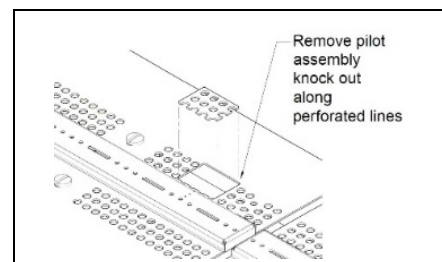

FIGURE 62
- 10) Before replacing the removed burner top from **step 4**, locate the perforated rectangular section in the pan. Gently remove this section along the perforations using a screwdriver or pliers. **Figure 62**